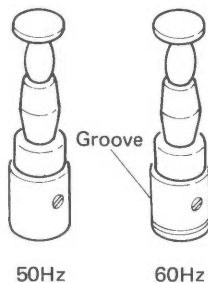

Fig. 23
**Note:** Difference between 50Hz and 60Hz pulleys is illustrated in Fig. 23.